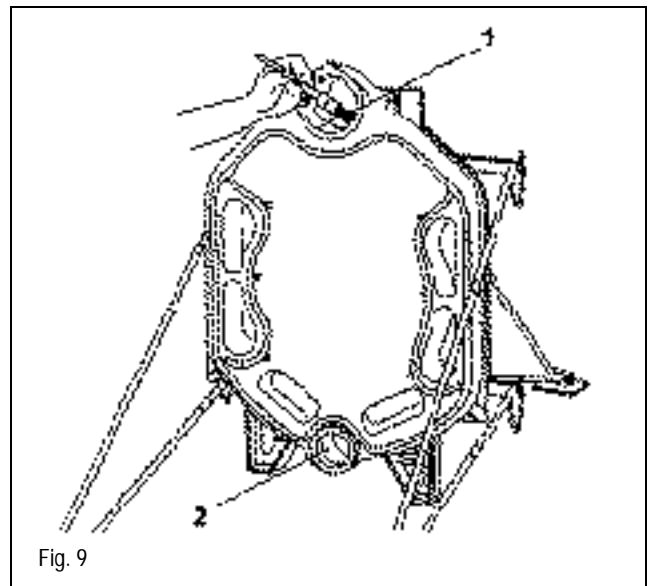

Fig. 9
- Clean the sealing surfaces of the nipple ports with a rag soaked in thinner or gasoline. Wipe dry (Fig. 9: 1,2).
- Evenly coat the nipple port sealing surfaces with the orange sealing compound (Leinolmennige) using the brush provided (Fig. 9).